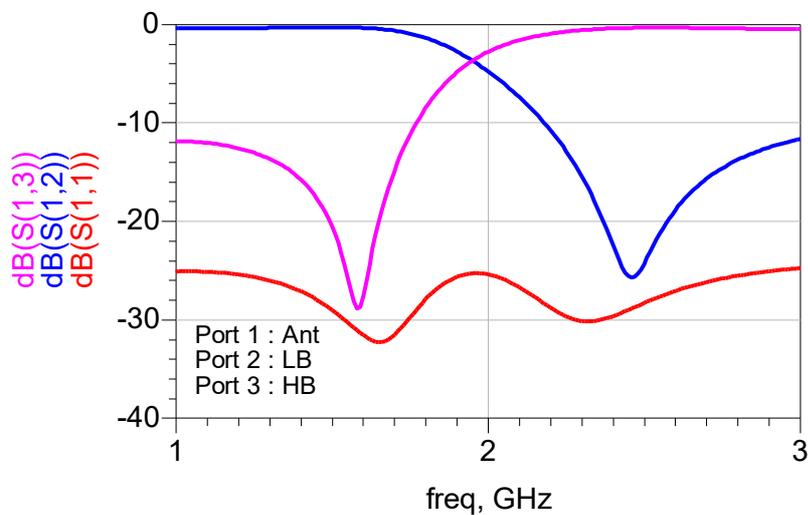

Fig. 3-1
- Electrical Performance: See **Fig. 3-1**.